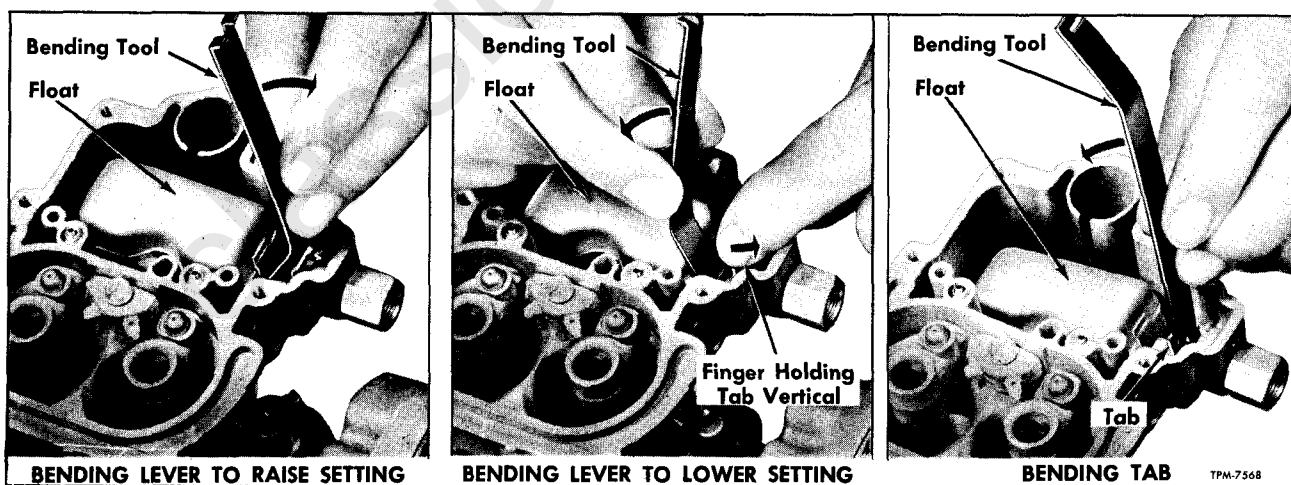

Figure 7—Typical Use of Bending Tool to Set Float Level
5. Use tool (J-4395) to bend float lever next to float to change the float setting. Use bending tool as illustrated in figure 7.